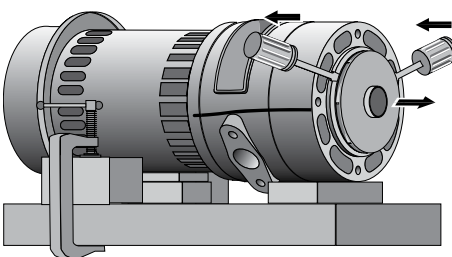

Figure 19
- Step 9. The impellers are keyed to the shaft and do not unscrew. Insert two screw drivers on opposite sides under the exposed impeller and pry the impeller off (Figure 19) to remove it.